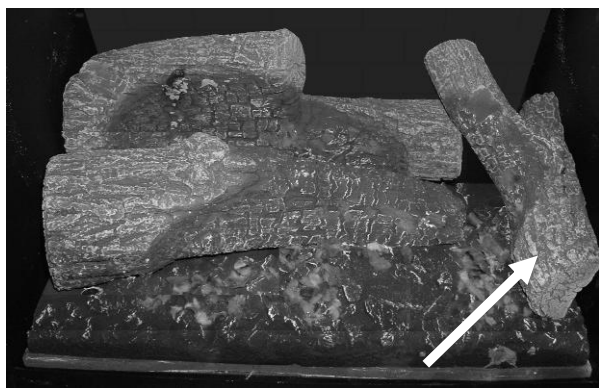

Figure 21 – Log 3 Position
4. Place log 3 onto the end of log 1 as shown as shown in Figure 21.